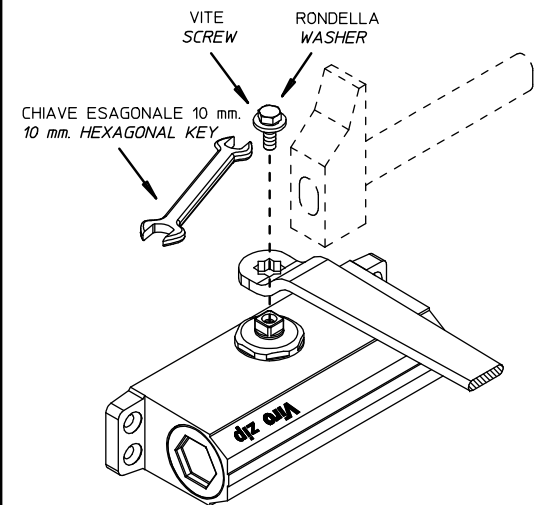

FIG. 2
2. ASSEMBLE ARM AND BODY AS SHOWN ON FIG.2 AND FIX THE TWO PARTS TOGETHER USING WASHER AND SCREW SUPPLIED WITH THE DOORCLOSER.